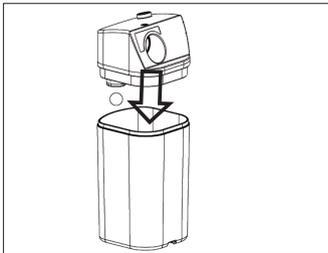

Fig 7.
- Press down lightly onto the collection jar using both hands until limit is reached (Fig 7).